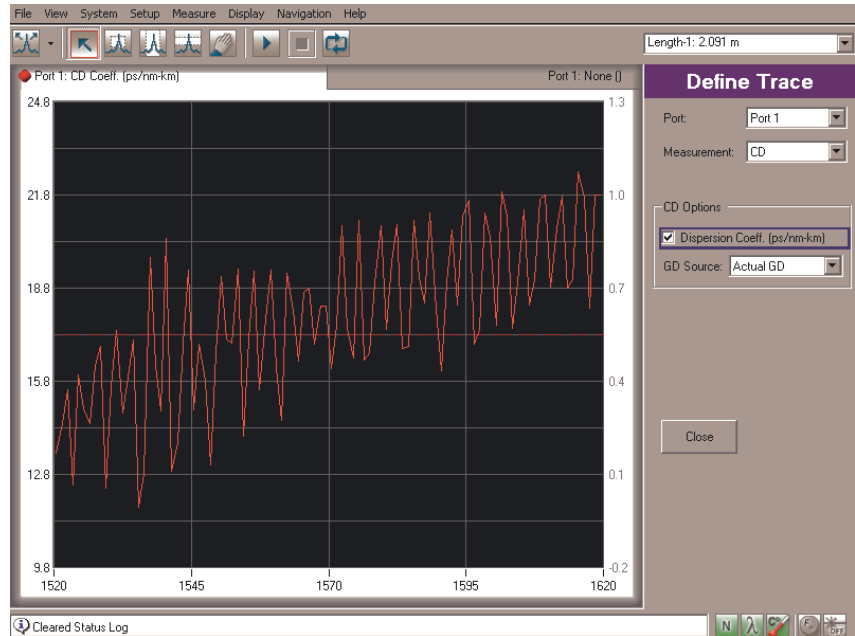

Figure 9 Sample CD Coefficient trace for the MXF fiber
- c By pressing Begin Length, the length can be measured. This should be about 2 m. (This value is not calibrated for the device under test). Then the CD measurement can be displayed as CD Coefficient in ps/nm-km, as in Fig. 9. The value shown should be similar to the values for standard single-mode fiber. In particular it should show a value near 17 ps/nm-km in the range from 1550-1560 nm.